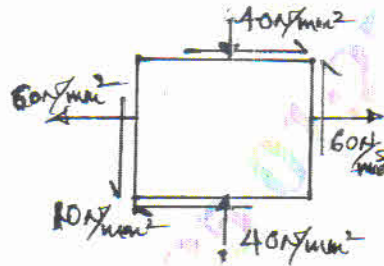

Fig.Q3(b)
- b. The state of stress at a point in a strained material is shown in Fig.Q3(b). Identify (i) Direction of principal planes (ii) Magnitude of principal stresses (iii) Magnitude of maximum shear-stress and its direction.